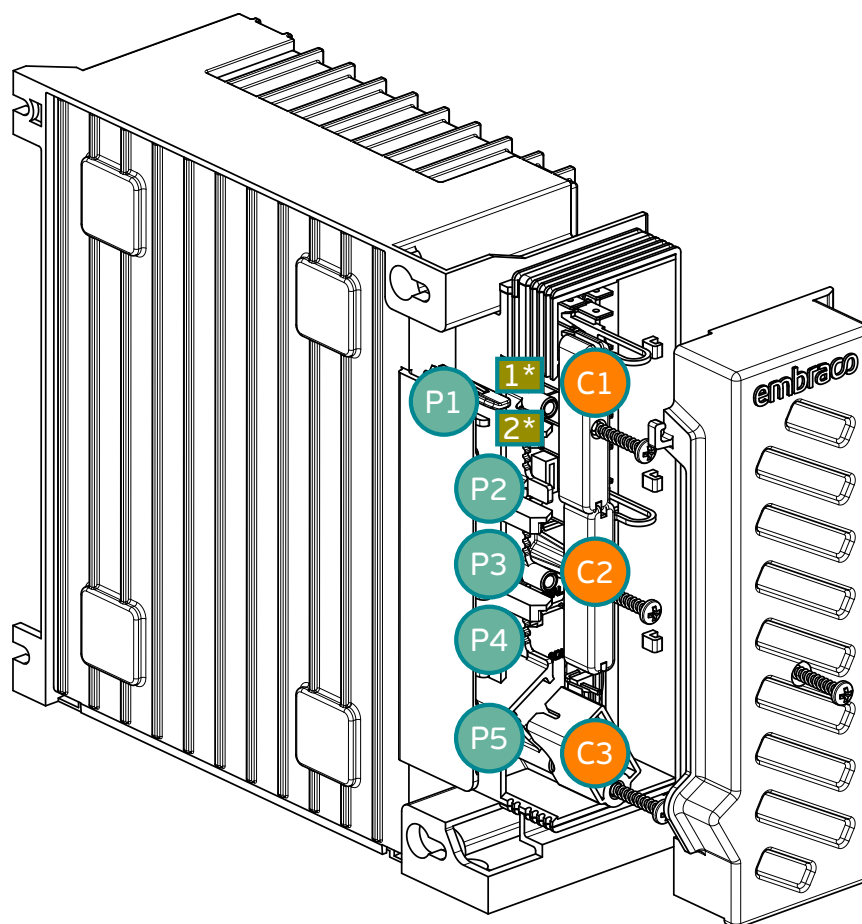

Figure 3.2: Cable paths and cord reliefs
The CF20A01 inverter is supplied only with compressor motor cable, which has your own cord relief. The compressor motor cable is already assembled in the inverter. The input power cord and communication cables are not provided by Embraco. As shown in Figure 3.2, the CF20A01 has 4 cable paths and 2 cord anchorages dedicated to retain the system cables.
2. Make the electrical connections and route the cables through the cable path (see Figure 3.2).
3. Route all the cables through the output (see Figure 3.2).
- The screws shown in Figure 3.2 must be fixed with torque of 1.0 Nm (± 0.2).